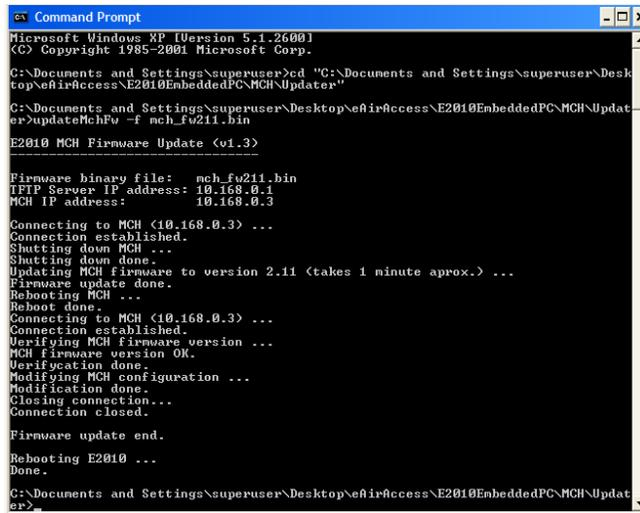
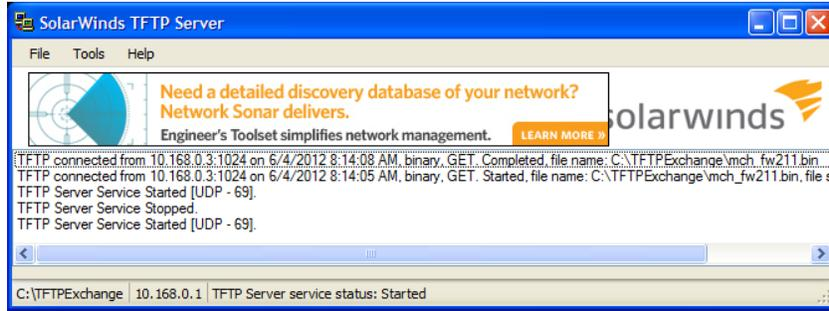

Figure 2-24: Command Prompt Window
Figure 2-25: SolarWinds TFTP Server Window
13. Now type **updateMchFw -f mch\_fw211.bin** and press **Enter**. Wait a few minutes for the script to run and return to the prompt. The *Command Prompt* window and SolarWinds Server Output window should display as shown in Figure 2-24 and Figure 2-25.